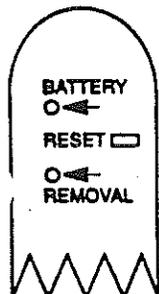

Fig. 1
2. Using the stylus, hold the RESET button down and count ONE THOUSAND ONE Release (see Fig. 1)